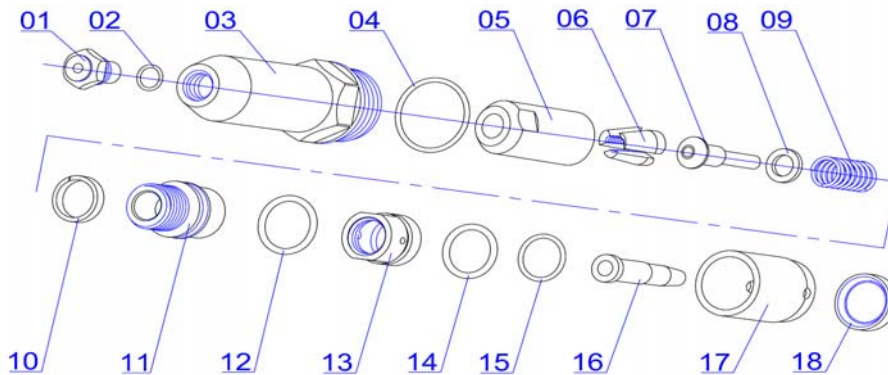

Fig. 5
3. Fit two wrenches, one on Jaw Case **05** and the other on **11** keeping the nut **11** stationary while unscrewing the jaw casing **05**. It is important that you only unscrew the nut closest to the jaws (jaw casing) **05**. **DO NOT ADJUST SET NUT 13**. See Fig. 5